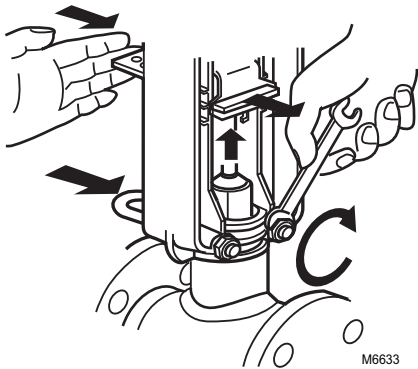

Fig. 3. Securing Actuator to Valve.
3. Push aside the stem button retaining clip and hold (Refer to Fig. 3).